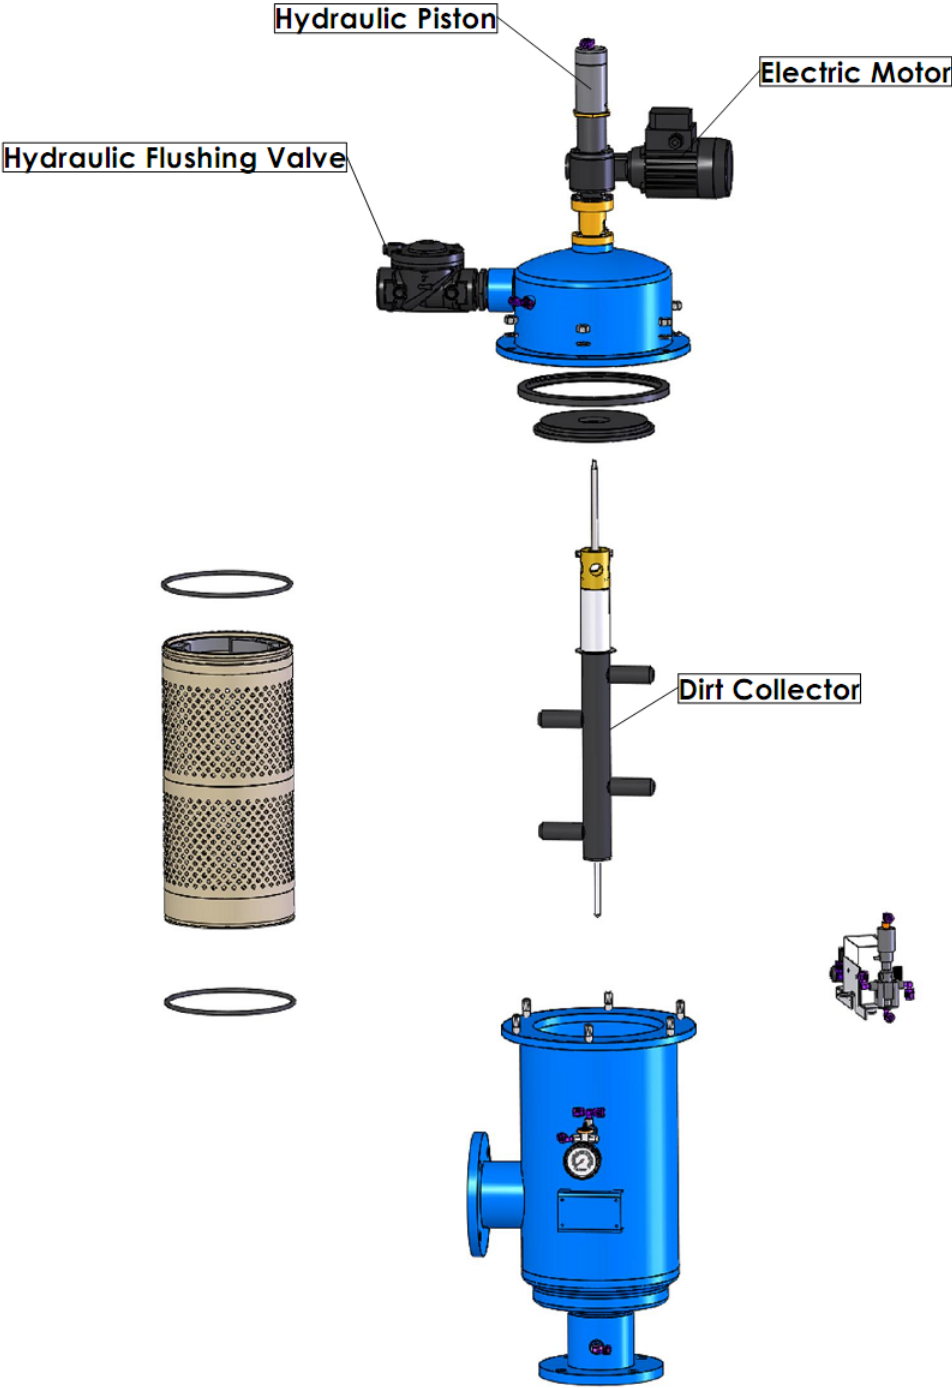

Figure 9: Dirt Collector Removal & Installation – Bell 4X"-8"
6. Remove the six nuts and washers connecting both parts of the filter's housing (See Figure 9).